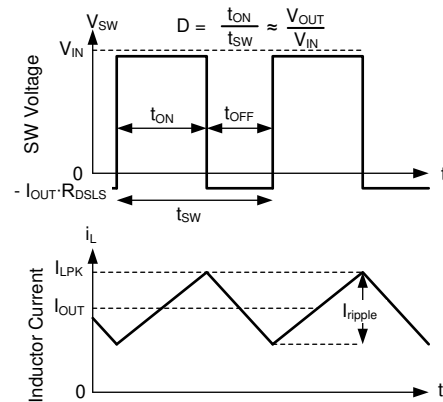

Figure 8-15. SW Voltage and Inductor Current Waveforms in Continuous Conduction Mode (CCM)
The following operating description of the LMR436x0-Q1 refers to Section 8.2 and to the waveforms in Figure 8-15. In CCM, the LMR436x0-Q1 supplies a regulated output voltage by turning on the internal high-side (HS) and low-side (LS) switches with varying duty cycle (D). During the HS switch on time, the SW pin voltage, V_{SW} , swings up to approximately V_{IN} , and the inductor current, i_L , increases with a linear slope. The HS switch is turned off by the control logic. During the HS switch off time, t_{OFF} , the LS switch is turned on. Inductor current discharges through the LS switch, which forces the V_{SW} to swing below ground by the voltage drop across the LS switch. The converter loop adjusts the duty cycle to maintain a constant output voltage. D is defined by the on time of the HS switch over the switching period: